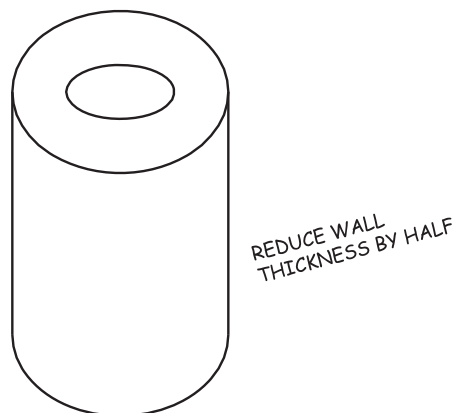

Fig. 6-10
1. The computer sketch in Fig. 6-10 was sent to the project engineer for comments and has now been routed to your desk with the attached note. Use the **ELLIPSE**, **ARC**, and **LINE** commands to create the sketch of the bushing. Because this is only a rough sketch, you may approximate the dimensions. Make the change requested by the engineering department. Save the drawing as **ch6-bushing.dwg**.